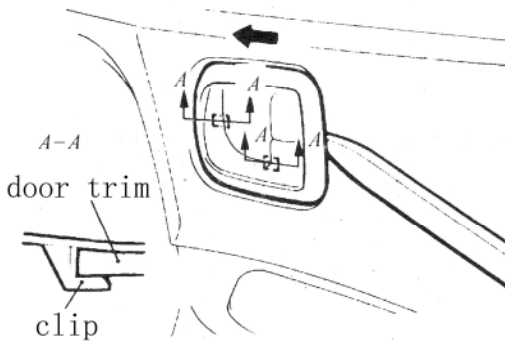

Fig. 18-35
- (1) According to Fig.18-35, open the rear end of handle by hand or tools, slide along the arrow, disassembly inner handle cover